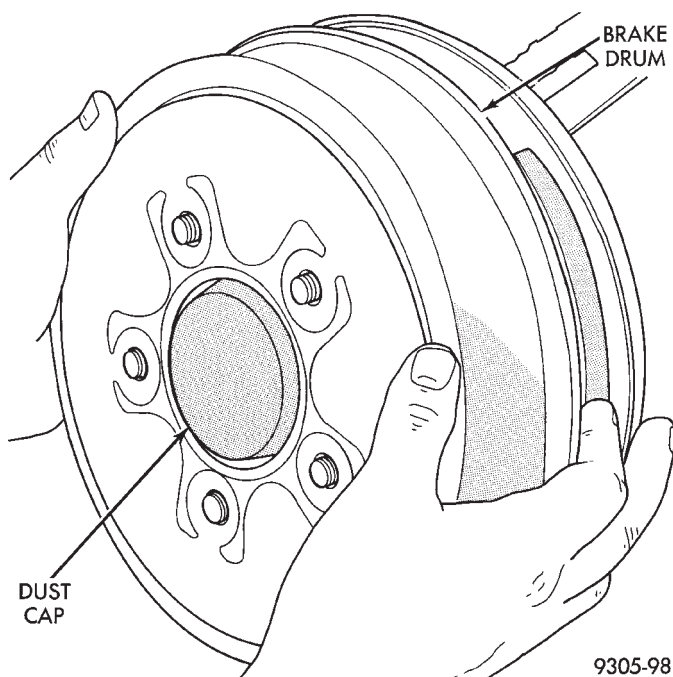

Fig. 64 Rear Brake Drum
- (3) Remove rubber plug from top of brake support plate.
- (4) Rotate automatic adjuster screw assembly with an upward motion, using a medium size screwdriver. See adjusting rear service brakes in the Service Adjustments section in this group of the service manual for the specific adjustment procedure.
- (5) Remove rear brake drum from rear hub and bearing (Fig. 64).